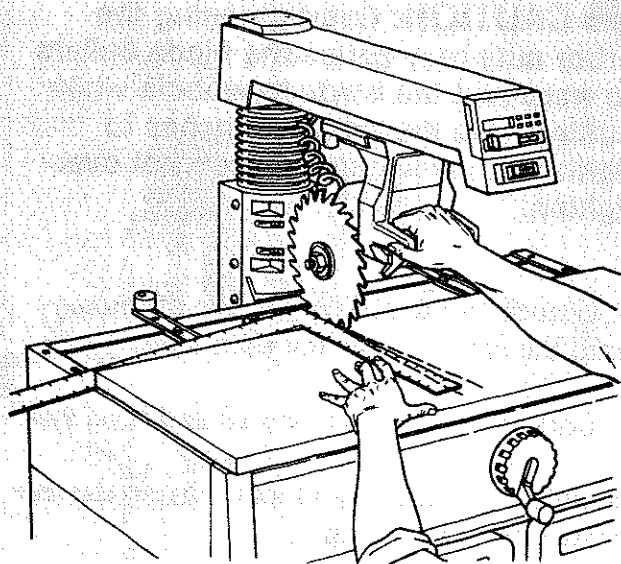

Fig. 105
8. Lay a framing square on the *front table* with the long edge along the back of the *table* and the short edge alongside the *blade*. (Figure 105)
9. Move the framing square toward the *blade* until a tooth of the *blade* just touches the edge of the square. (Figure 105)
If the marked tooth moves away from the square or tries to "walk" on top of it, go to step 13. (Figure 105)